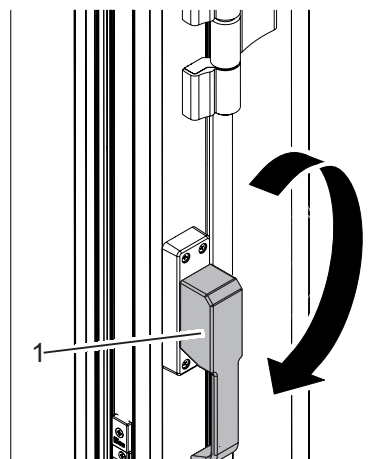

Fig. 28: Switching to the single action door mode
2. Move the door lock bar (Fig. 28/1) in the direction of the arrow into the lower end position.